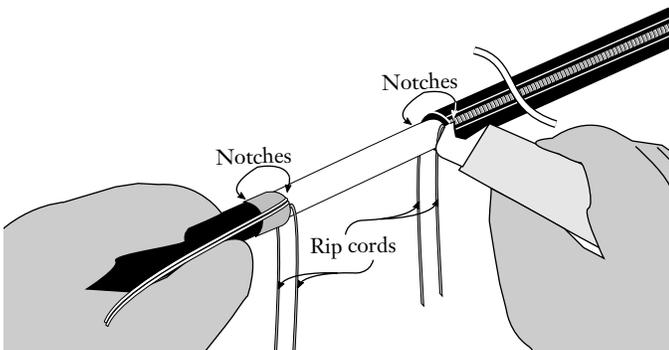

Figure 33.
7.12 Make a small starting cut for each of the four rip cords through the outer sheath and armor using the hook blade (Figure 33).